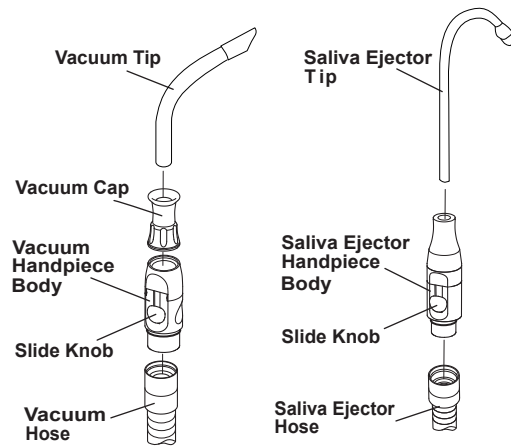

Fig.5-1 Vacuum Handpiece and Saliva Ejector
1. Vacuum Handpiece and Saliva Ejector (Fig.5-1)